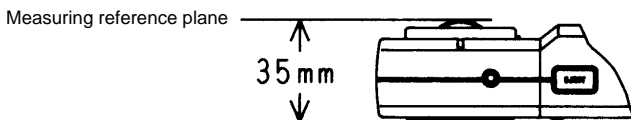

Figure 5. Measuring Reference Plane
2. Set the position and angle of the light-detecting surface accurately. Figure 5 shows the measuring reference plane.